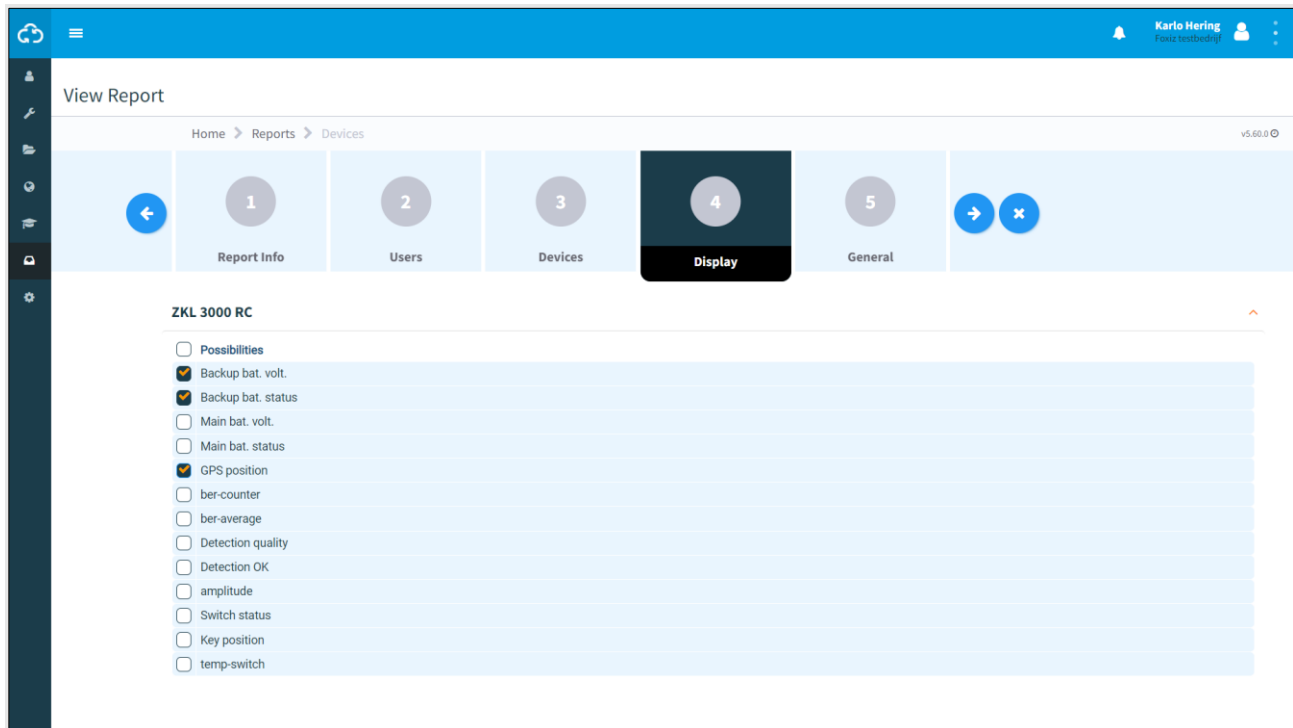

Figure 9-5: View report - display
- Step 2 - Display (Figure 9-5);